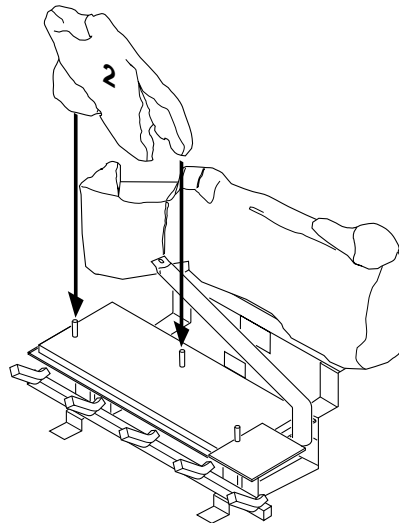

Figure 52 - Installing Log Assembly No. 2
2. Place log #2 (two log assembly) onto pins on left front and middle section of the front burner (see Figure 52).